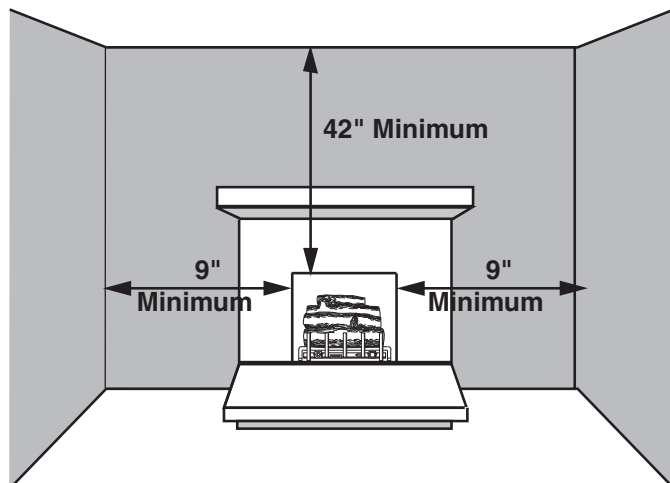
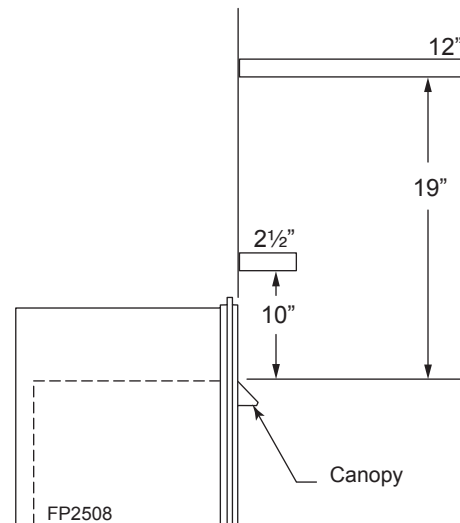

Figure 6. Sidewall and Ceiling Clearances
Figure 7. Mantel Clearances
Ensure that minimum clearances shown in Figure 6 and Figure 7 are maintained. Left and right clearances are determined when facing the front of the firebox.
**Sidewall Clearances** — The clearance from the inside of the appliance to any combustible adjacent wall should not be less than 9" for the VFC24 and VFC32. Figure 6
**Ceiling Clearance** — The ceiling must be at least 42" from the top of the firebox opening. Figure 6
**Mantel clearances** — The canopy supplied with the unit must be installed. If a combustible mantel is installed. It must meet the clearance requirements detailed in Figure 7
**WARNING:** The dimensions shown in Figures 6, 7 and 8 are minimum clearances to maintain in installing this heater. Left and right clearances are determined when facing the front of the heater. Follow these instructions carefully to ensure safe installation. Failure to follow instructions exactly can create a fire hazard.